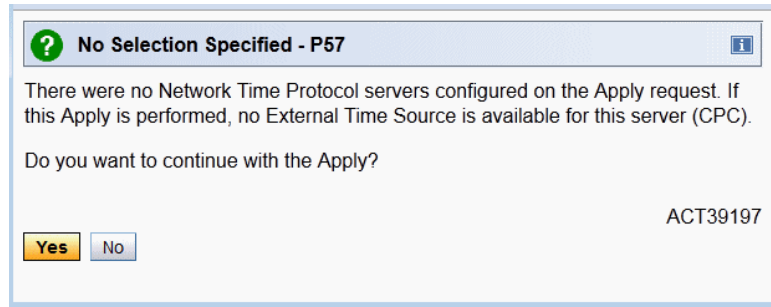

Figure 1-55 Message ACT39197 - Removing last NTP server
22. When you click **Apply**, the message ACT39197 displays (Figure 1-55 on page 34).